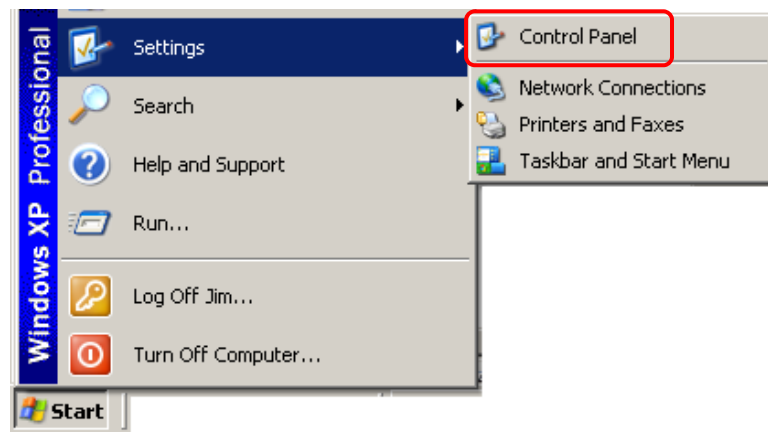

Figure II-21. Accessing Windows Control Panel
- 1) This application is accessed in the Windows Control Panel, which is opened by clicking **Start > Settings > Control Panel** on the Windows Desktop (Figure II-21).